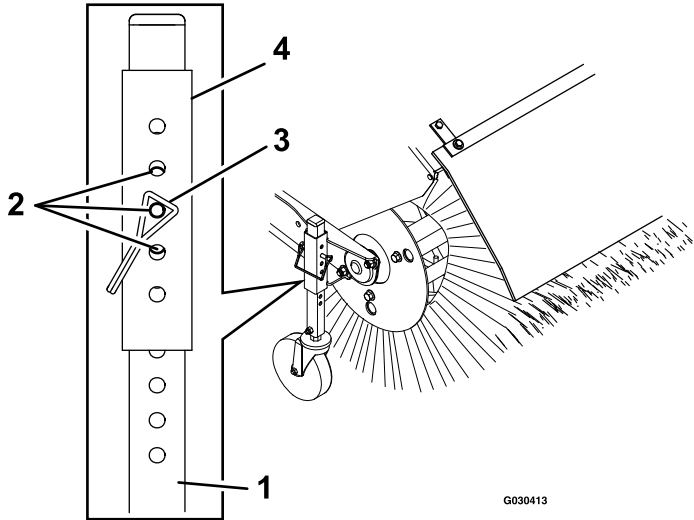

Figure 17
5. To adjust the broom height, remove and retain the pin from the adjuster sleeve and wheel tube of the caster (Figure 17).
7. For fine tuning adjustments, slide the adjuster sleeve 1 pin hole up or down on the caster wheel tube to adjust the broom height in 3 mm (1/8 inch) increments (Figure 17). Repeat steps 5 through 7 for the other caster wheel.